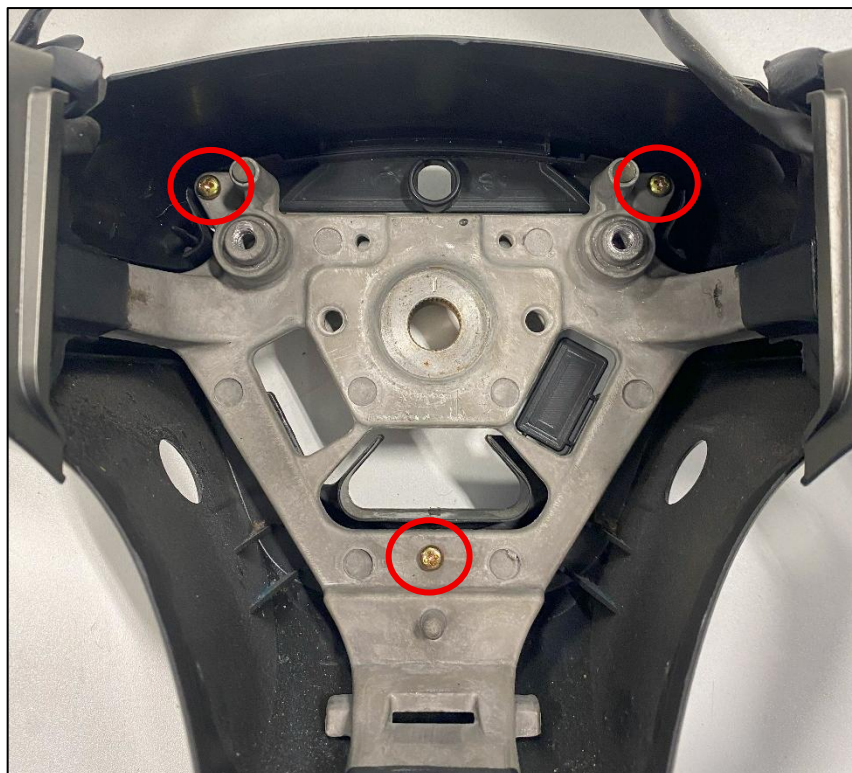

Figure 11
17. Install the Rear Plastic Trim onto the new Steering Wheel and secure with the (3) three Philips Head Screws removed in *Step 14. Figure 11.*